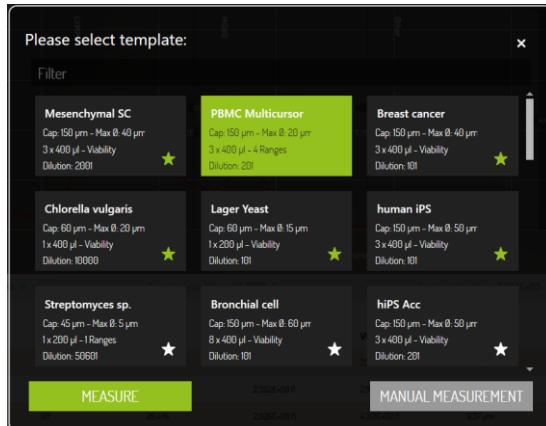
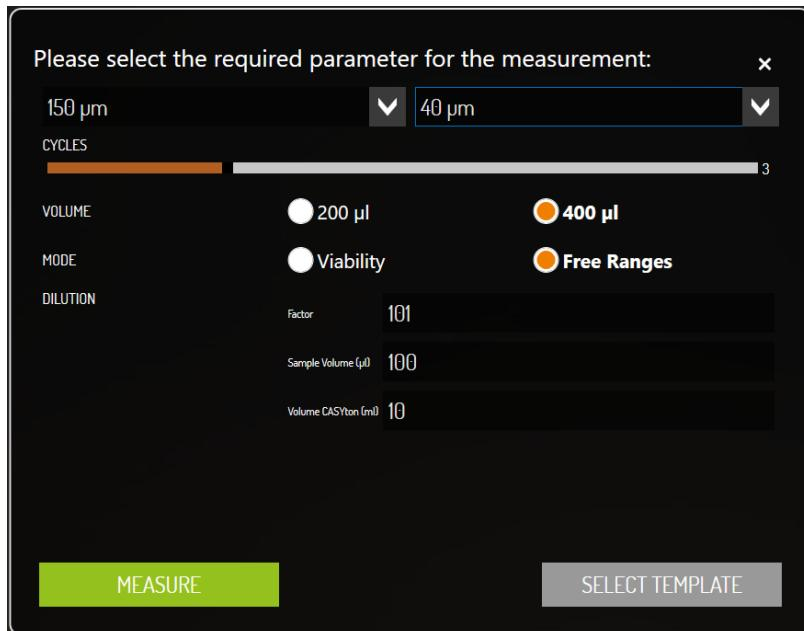

Figure 16: Template window opens after clicking on Measurement. A Template can easily be chosen and the measurement started
Figure 19: Manual measurement allows to measure samples without existing Template
Measuring a sample using an existing template can be done by clicking on “Measure”. Next a pop up will appear containing all existing templates (see Figure 16). The template that has been used most recently is preselected. To select another one, just click on the corresponding template. Clicking on “Measure” will start the measurement. After the measurement is finished the result will be displayed in Graph View (see Figure 17).
- + Click **Manual Measurement** (see Figure 16) and a new window will open (see Figure 19)